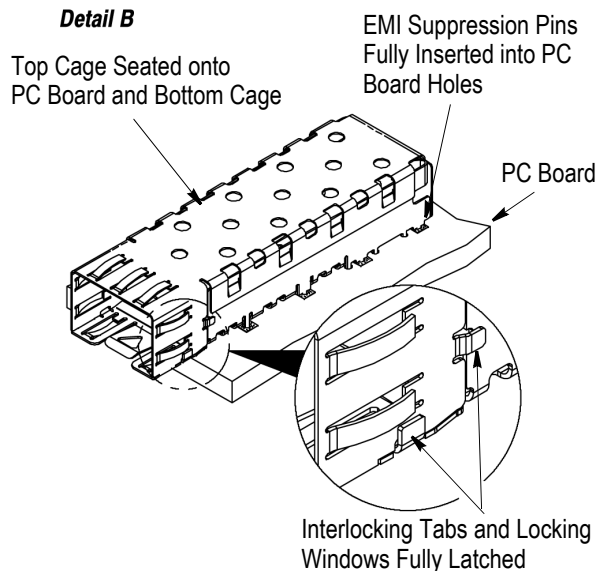

Figure 3
2. Position the top cage over the bottom cage, aligning the locking windows and interlocking tabs with the bottom cage locking windows and interlocking tabs. Make sure that top cage EMI suppression pins align with the matching holes in the pc board. See Figure 3, Detail A.
3. Simultaneously seat the top cage onto the bottom cage and pc board. Make sure that the top cage EMI suppression pins are fully inserted into the appropriate holes in the pc board, and the top cage locking windows and interlocking tabs are fully seated and latched onto the bottom cage. See Figure 3, Detail B.